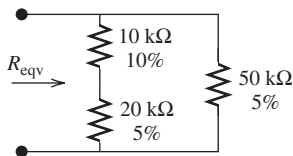

FIGURE P14.2 Resistor network.
- 14.2** (A) For the resistor network of Figure P14.2, find the minimum and maximum tolerable equivalent resistance (R_{eqv}).